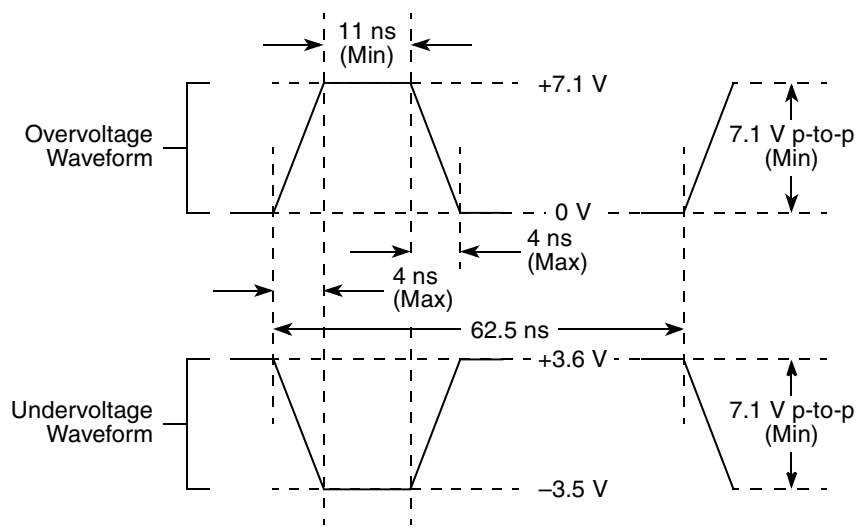

Figure 3. Maximum AC Waveforms on PCI interface for 3.3-V Signaling
- OV_{IN} on the PCI interface may overshoot/undershoot according to the PCI Electrical Specification for 3.3-V operation, as shown in Figure 3.
Figure 3 shows the undershoot and overshoot voltage of the PCI interface of the MPC8541E for the 3.3-V signals, respectively.